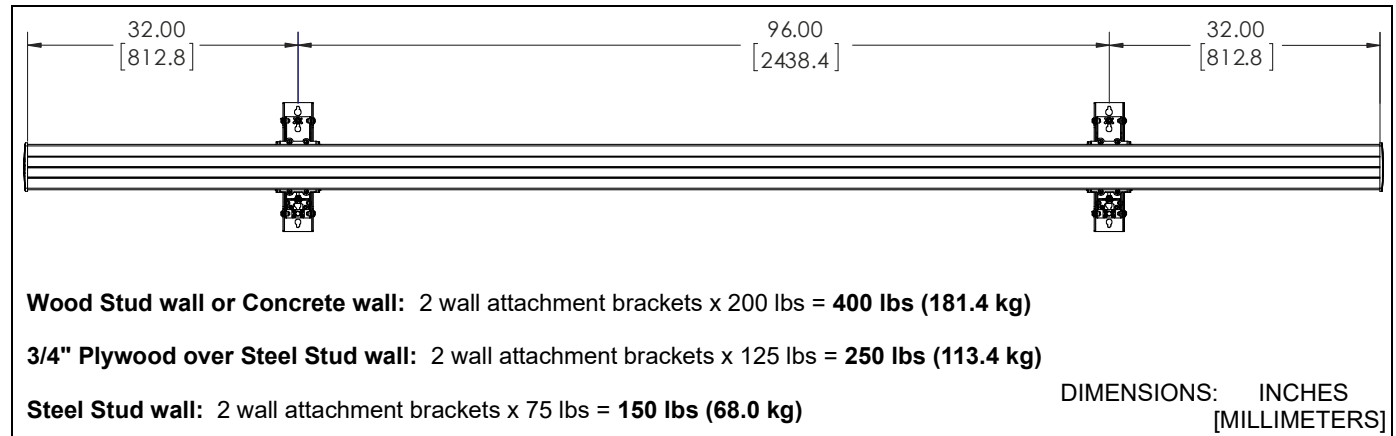
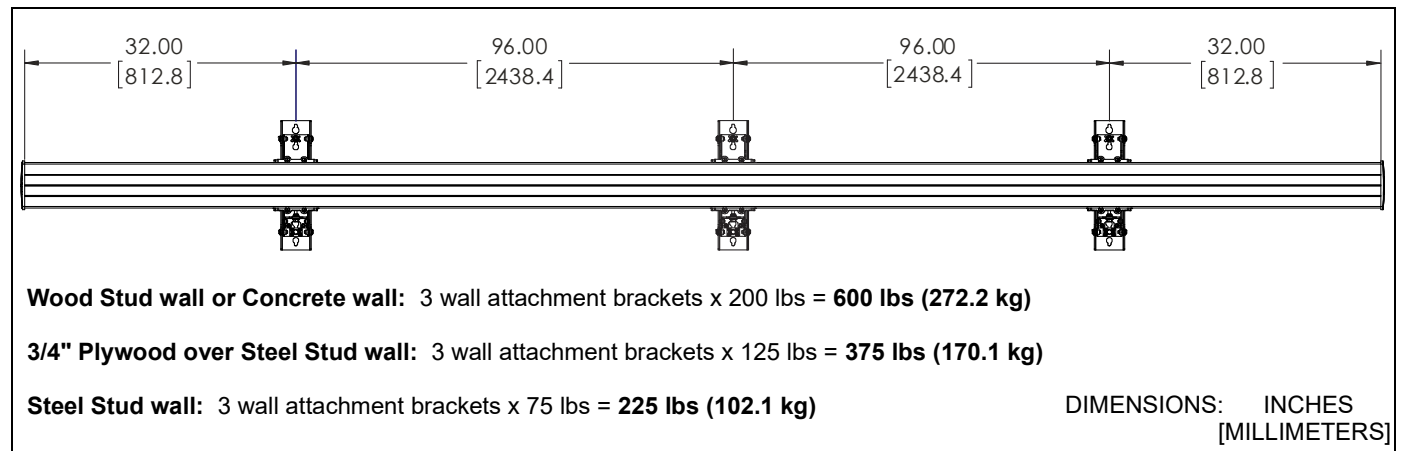
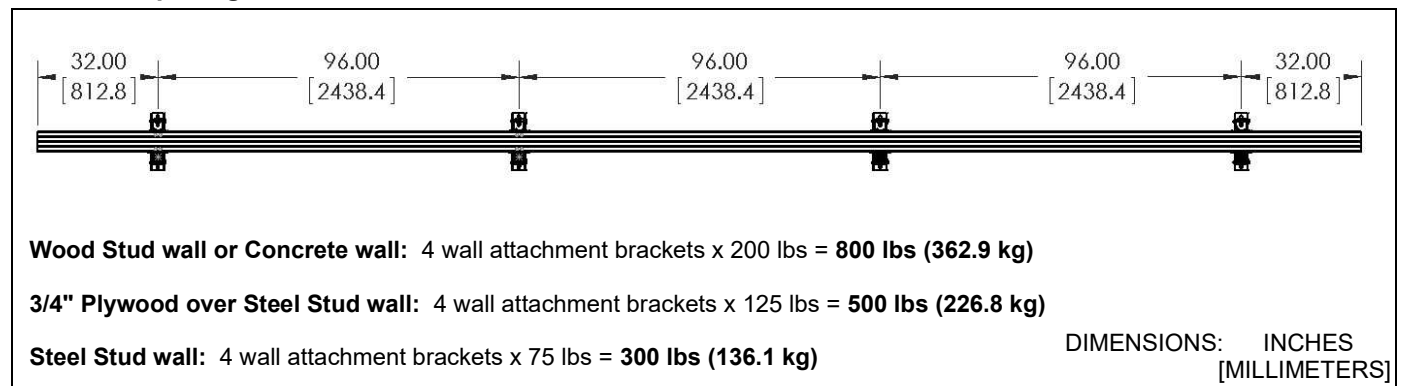

Figure 3
Figure 4
Figure 5
**IMPORTANT !** : Weight capacity is dependent upon wall type, number of wall attachment brackets and screen interface brackets. Weight capacity is determined by the **LOWEST** weight capacity within the modular configuration. See Table 1, (See Figure 3), (See Figure 4) and (See Figure 5)